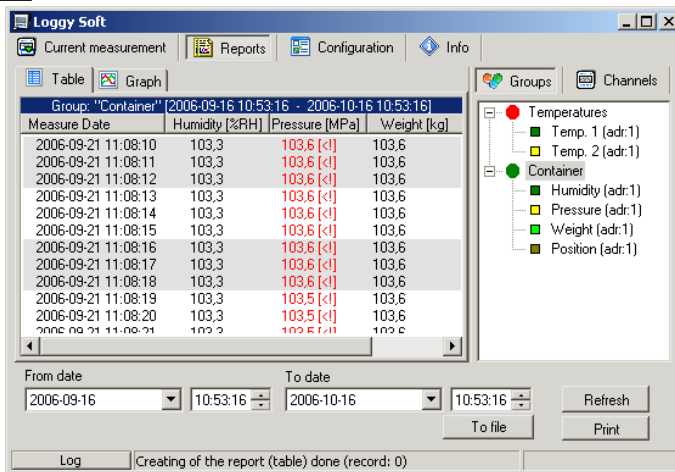

Fig. 3.3. **Reports** - menu
The **Table** tab (Fig. 3.3) is used for printing information concerning recorded measurements (e.g. temperature, humidity) in the form of a table for one of the groups or a particular measurement channel selected by the user (for more information on groups see 3.3.2 section, at page 91). This tab also enables the export of data to text format files. The exported file is formatted in a way allowing the transfer of data to a calculation sheet.
- click appropriate tab **Groups** or **Channels** (Fig. 3.3),